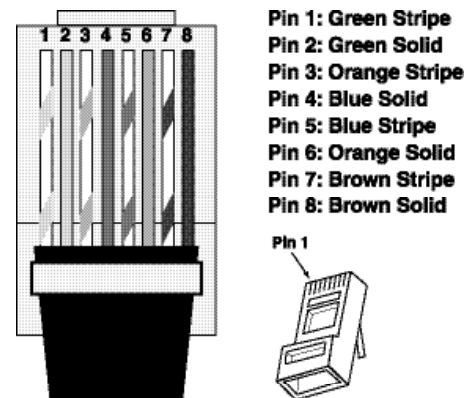

Figure 2: RJ-45 Connector
3. Untwist the wire pairs and spread them flat. Arrange them as shown in Figure 2.
2. Install RJ-45 connectors on both ends of the Cat5 cable as explained in **Figure 2**: Cat5 / RJ-45 connector.